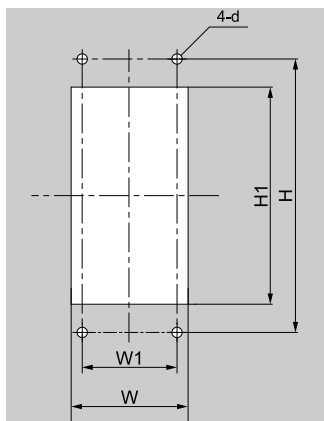

Figure 2.15 Panel Cut-Out Dimensions to Attach Inside Control Panel
- Use the dimensions in Figure 2.15 and Table 2.6 to cut an opening in the control panel for the keypad.